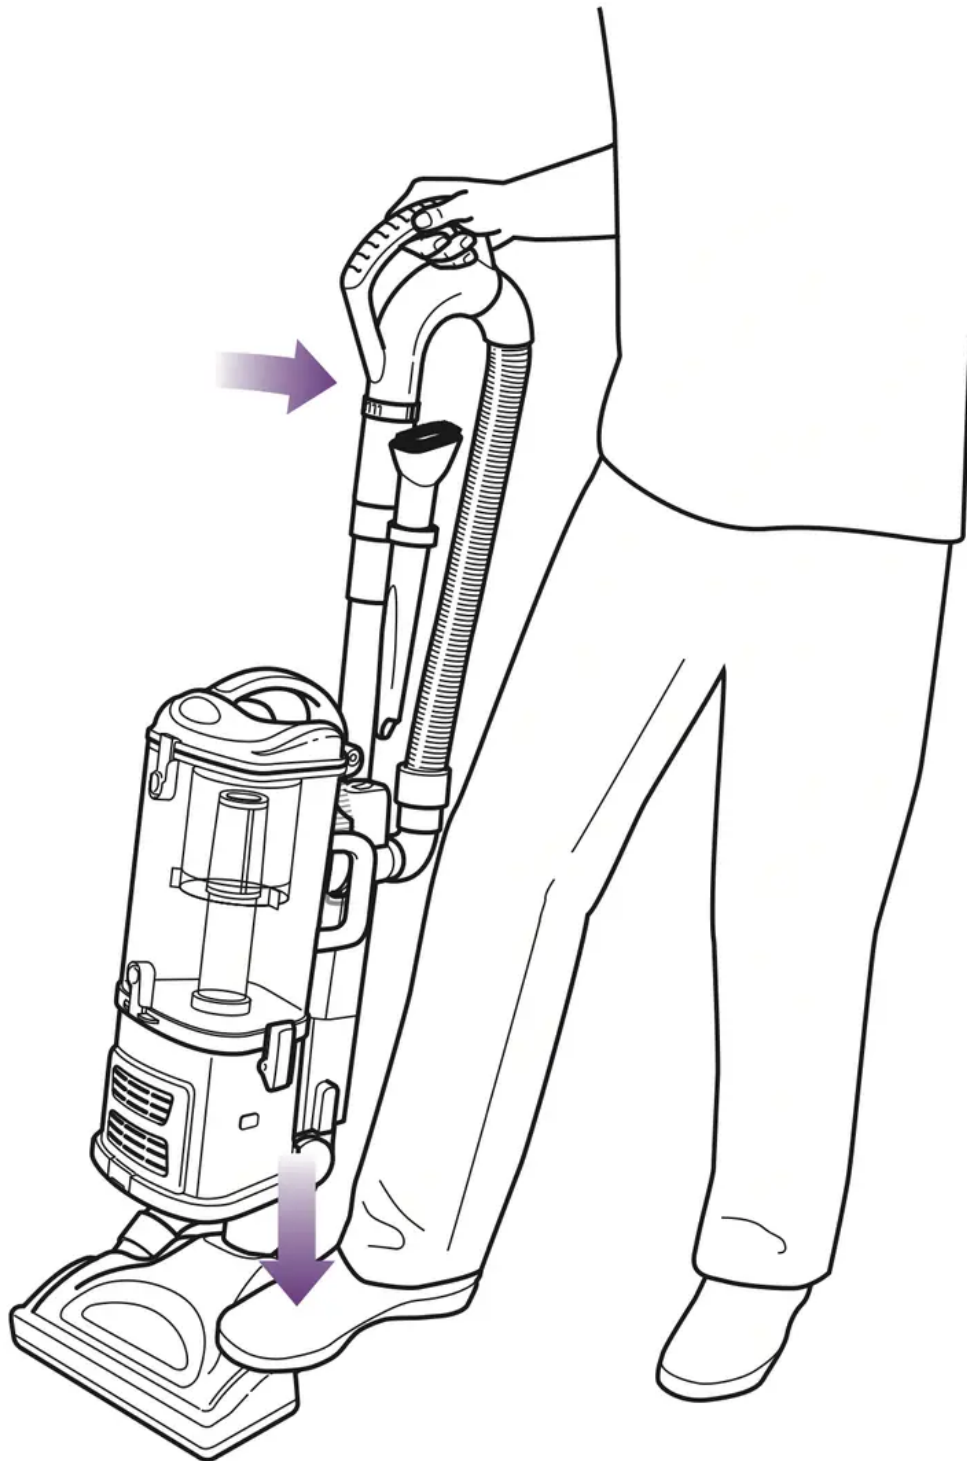

Fig. 13
4. Gently press the floor nozzle down with your foot while you grasp the handle and tilt it back towards you. (Fig. 13)